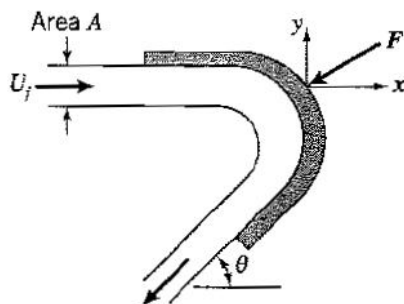

Figure P3.58
3.58 A horizontal jet of water, of constant velocity U_j strikes a deflector such that the jet direction is smoothly changed, as shown in Figure P3.58. Find the ratio of the vertical and horizontal components of the force required to hold the deflector stationary in terms of the angle θ . Neglect gravitational effects. Does this force ratio change when the deflector moves to the right with velocity U_b ?